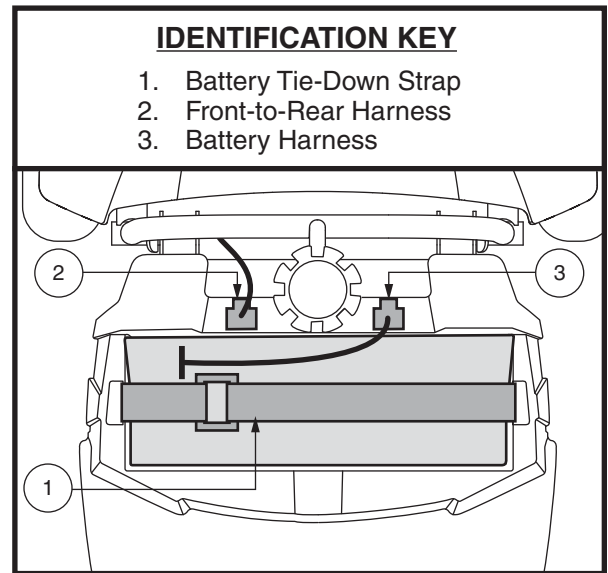

Figure 21. Battery Tie-down Strap
1. Disconnect the battery harness and remove the battery pack from the Travel Scooter. See figure 21.
2. Disconnect the battery harnesses and tie-down strap then remove the battery pack from the Travel Scooter. **See figure 21.**